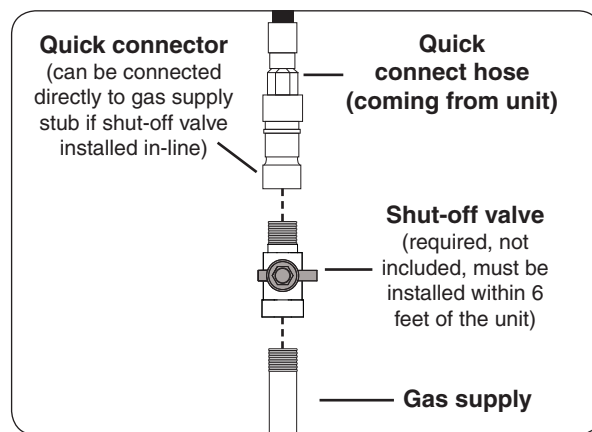

Fig. 17-2 Connecting to a gas line
2. A shut-off valve is required within 6 feet of the unit. Connect the quick connect hose to the shut-off valve OR gas supply using a pipe joint compound resistant to all gasses (see Fig. 17-2). Tighten securely.